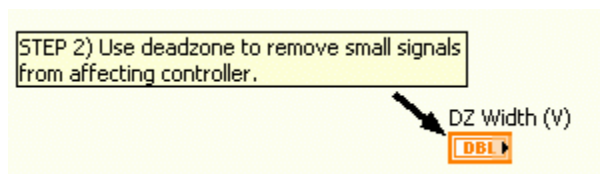

Figure 4.6: Wire ZOH output to dead zone
4. The *Servo Command (V)* control is directly connected to the D/A#0 that drives the PWM amplifier connected to the servo. Vary the *Servo Command (V)* knob in the VI and examine its affect on the actual servo position. Describe how the voltage affect the position of the servo clamps.
6. Open the block diagram and find the section shown in Figure 4.6, below. Connect the output of the zero-order hold signal to a dead zone. Use *DZ Width (V)* control to specify the width of the dead zone function. Attach a copy of your code.